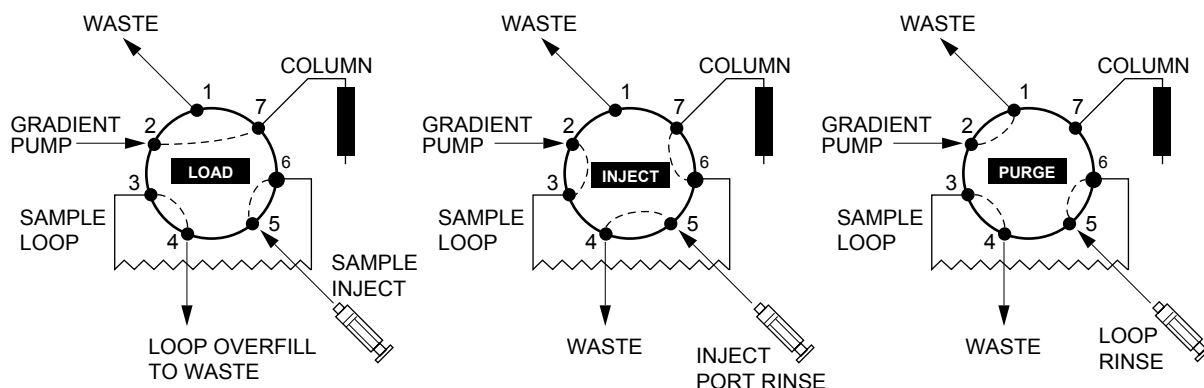

Figure 21. Inject Valve Plumbing for V7-3 or AV7-3
- Plumb the inject valve according to Figure 21. Additional information is located in section 4.4.
See Figure 21 for a diagram of this plumbing.